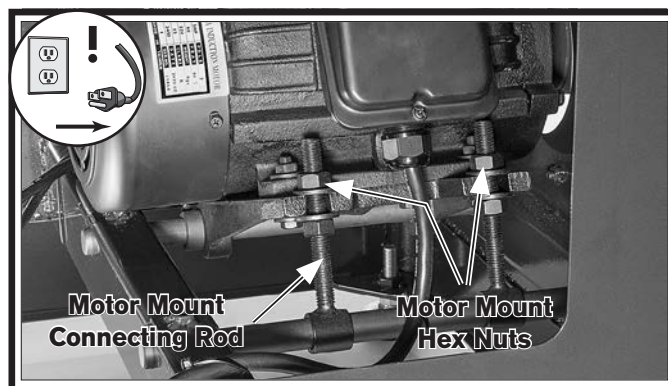

Figure 48. Motor mount hex nuts.
3. Remove rear cabinet cover to access motor mount hex nuts (see **Figure 48**).
5. To adjust V-belt tension, loosen top motor mount hex nuts (see **Figure 48**), then adjust bottom hex nuts to raise or lower motor.